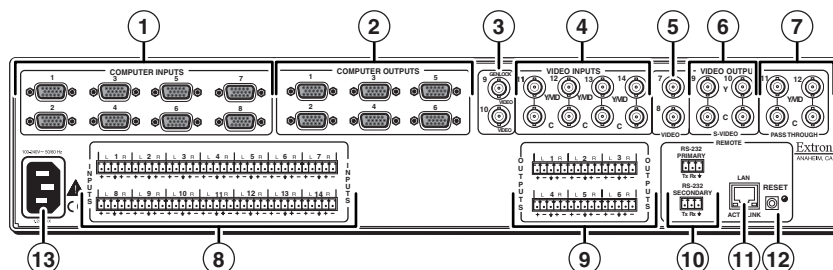

Figure 2-1 — MPX 866 A Media Presentation Matrix Switcher
The following Underwriters Laboratories (UL) requirements pertain to the installation of the MPX transmitter or receiver into a wall or furniture (figure 2-1).
All switcher connectors are on the rear panel (figure 2-1).